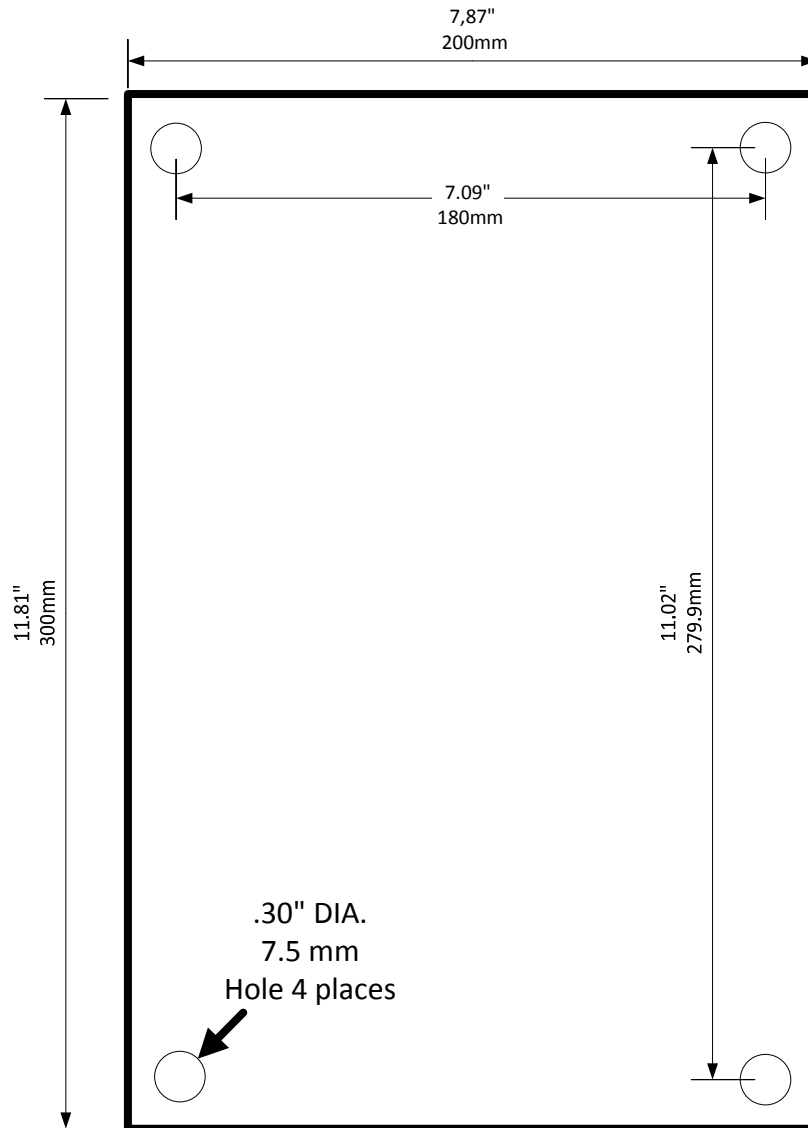

Figure 1: Housing Mounting
9. Position the receiver; make sure to locate it as far as possible from exposed trolley wire and sources of electromagnetic or radiated noise. Enclosure mounting dimensions and mounting can be found in Figure 1.
NOTE: Figure 1 is not to scale.